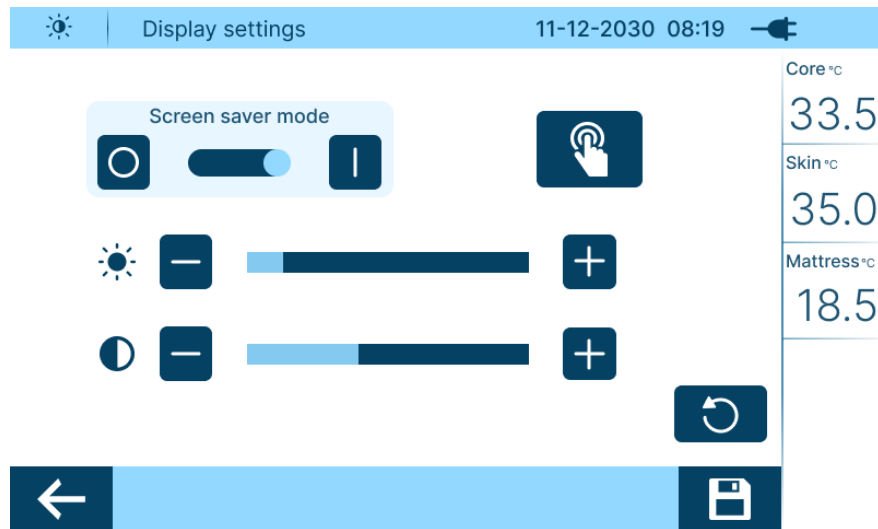
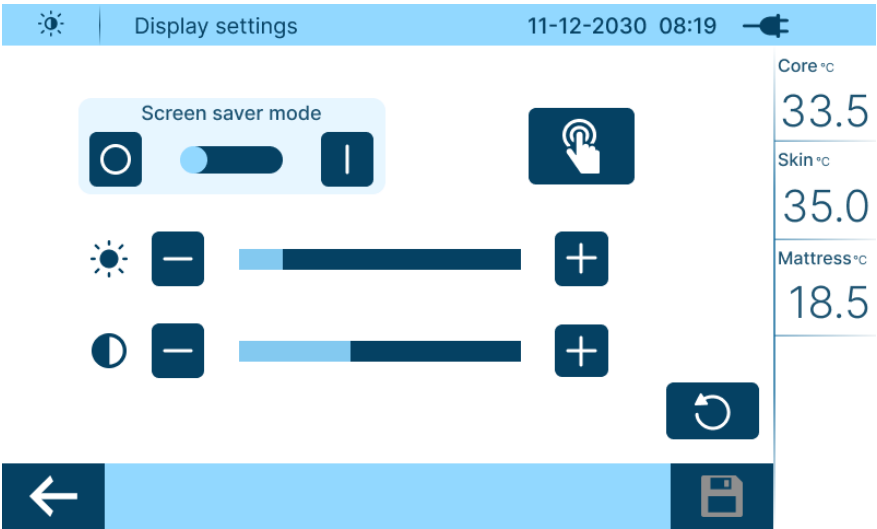

Figure 90: Brightness & contrast settings changed
Figure 91: Screen saver mode
- The screen saver can be toggled ON/OFF using the controls as shown in Figure 90 and Figure 91 If the screensaver mode is ON: